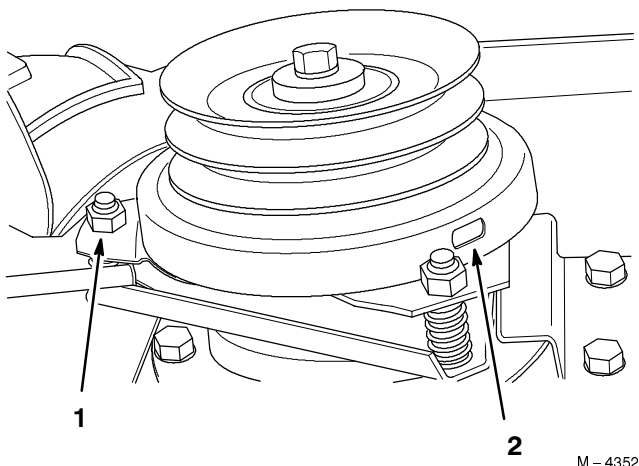

Figure 34
2. To adjust clutch, tighten or loosen lock nuts on flange studs (Fig. 34).